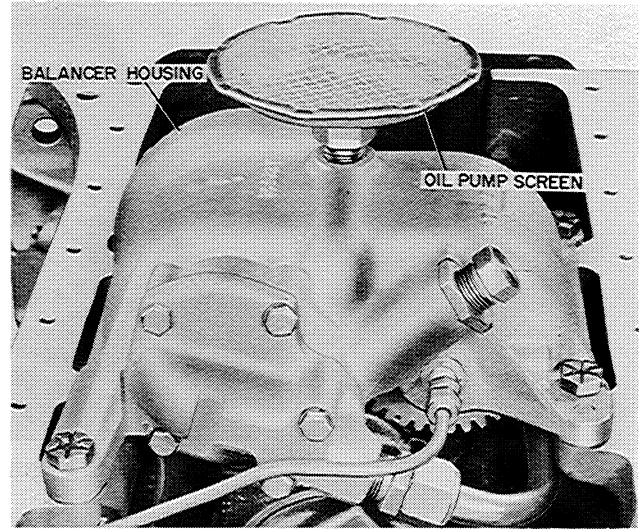

Figure MM-8. Oil Pump Screen
2. Remove the screen from the balancer housing, Figure MM-8.